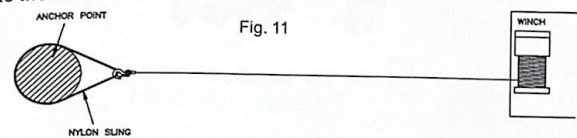

Fig. 11
3. Figure 11 illustrates the most commonly used rigging. A nylon sling is used to protect the tree when it is used as an anchor, and the wire rope is attached to use the sling. The use of a chain or wire rope is not recommended due to the damage it could cause to the tree.